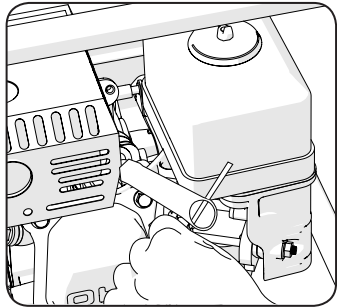

Fig 20
- Using the spark plug socket and 'T'-bar (supplied) remove the spark plug. (Fig. 20)